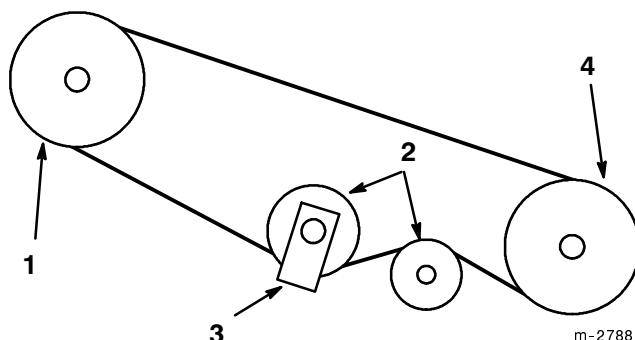

Figure 11
15. Route belt between belt guide and around idler pulleys (Fig. 11).
16. Rotate idler bracket to stretch spring and slip belt over snowblower pulley (Fig. 11),